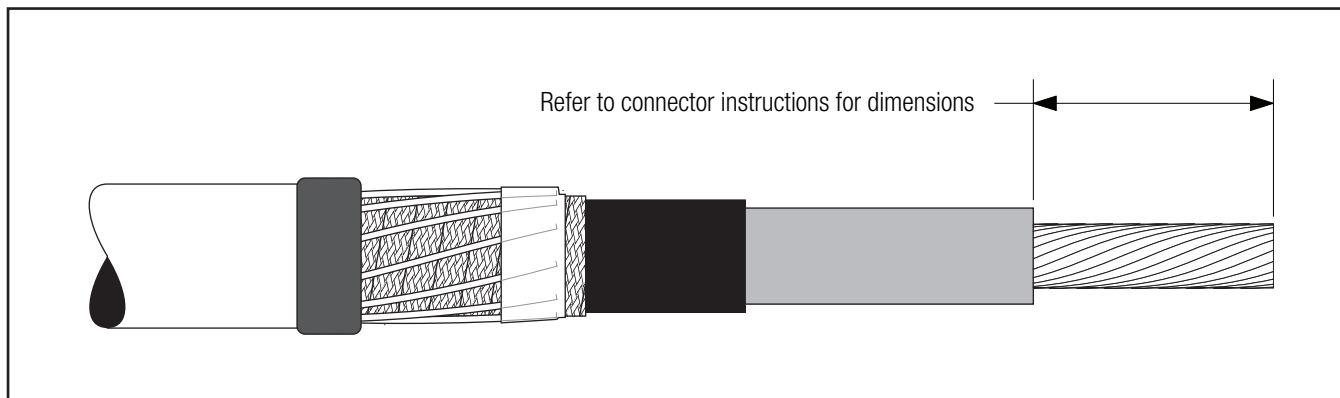

Figure 7
- 3.1** If using a 3M Shearbolt Connector QCI 2-250, refer to the instructions included with the connector for insulation cut-back dimension. Insulation removal length shall not exceed 2" (51 mm) from conductor end (*Figure 7*).